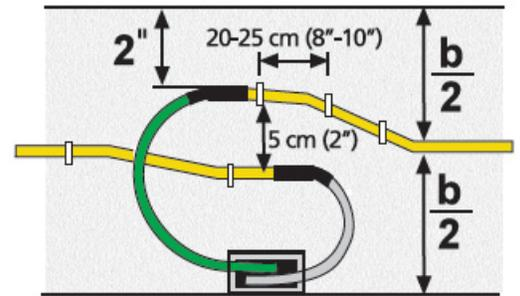

Figure 1
**SikaFuko® VT** requires a minimum 2" concrete cover and a minimum 2" clearance between two parallel hose sections (Figure 1).
Intersecting hoses are required in most applications. The injection portion of the hose must maintain intimate contact with the concrete; vent sections can be overlapped (Figure 1).
1. Secure the **SikaFuko® VT** Hose to a flat, smooth concrete surface using special plastic clips or pipe clips every 8"-10" on center (see figures 1 and 2). **SikaFuko® VT** should not be installed in a buckled or constricted manner, nor should it be attached to reinforcing bars.